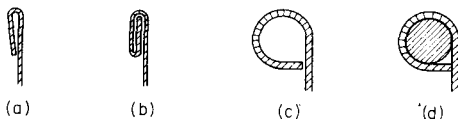

Fig. 14
33. Which of the beaded edges in Fig. 14 gives the strongest edge?